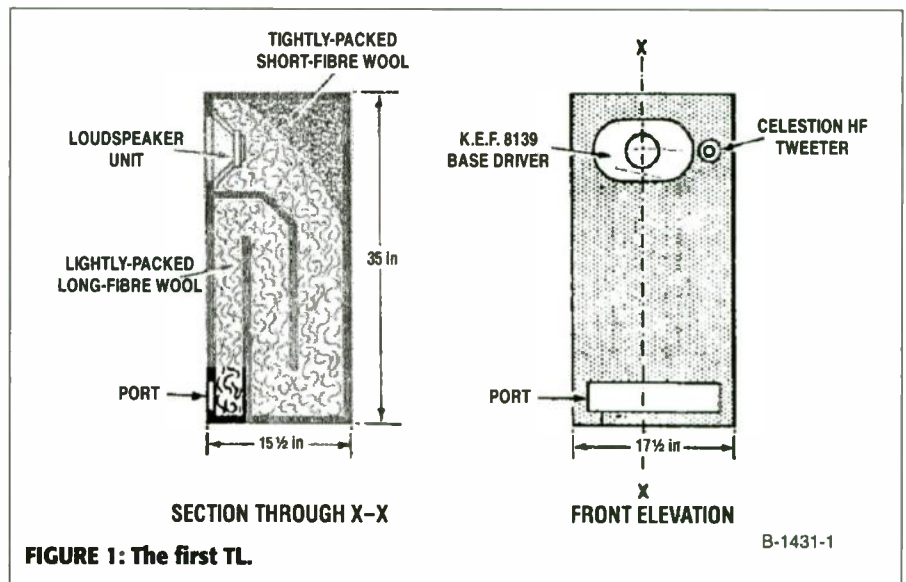

FIGURE 1: The first TL.
The designation "transmission line" (TL) in speaker design is used very imprecisely by amateurs. To define a TL, first you must understand how a TL works. But before that, you need a short definition: a TL is what A.R. Bailey built (*Fig. 1*).